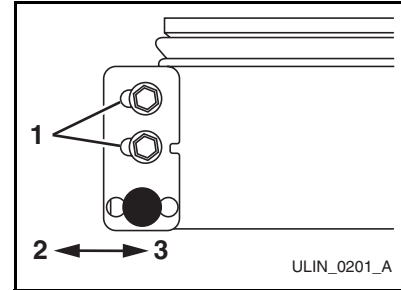

Figure 17
- Your plate has slotted mounting holes (**Figure 17, 1**). Loosen but do not remove the two hinge plate screws.
4. If door edge opposite the hinges needs to move up, move plate toward outside of door (**Figure 17, 2**). If door edge needs to move down, move plate toward inside of door (**Figure 17, 3**). Repeat until top edge of door is parallel with top of cabinet and tighten screws securely (**Figure 17, 1**).